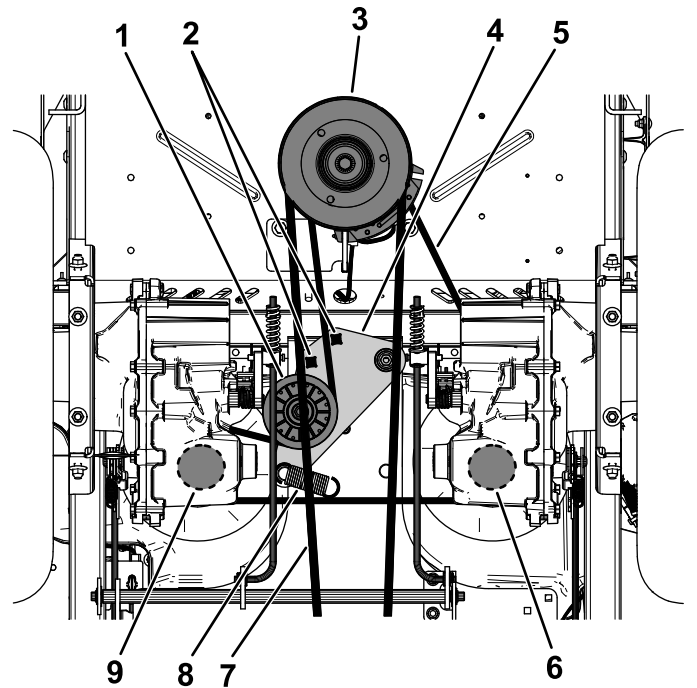

Figure 68
5. Use a 1/2-inch ratchet or breaker bar in one of the square holes in the idler arm to remove tension on the idler spring (Figure 68).
6. Remove the existing belt from the idler pulley, 2 hydraulic-pump-drive pulleys, and engine pulley (Figure 68).
7. Install the new belt around the idler pulley, engine pulley, and 2 hydraulic-pump pulleys (Figure 68).